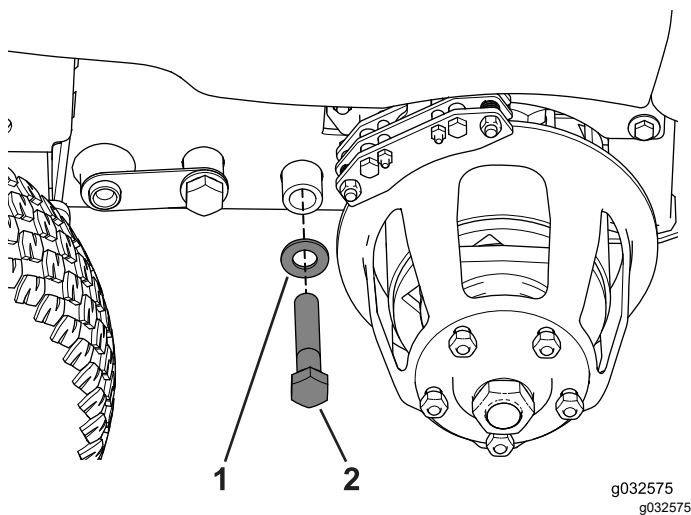

Figure 116
4. Remove the bolts and washers that are nearest the rear hubs (Figure 116).